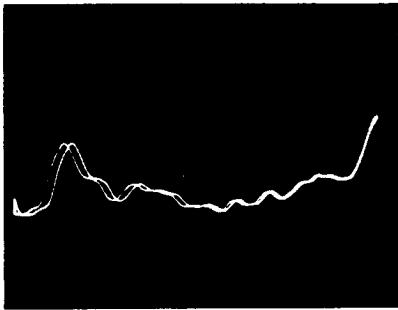

Figure 4-7. Typical Display
- Adjust oscilloscope and RF Plug-in POWER LEVEL control for display similar to typical display shown in Figure 4-7.